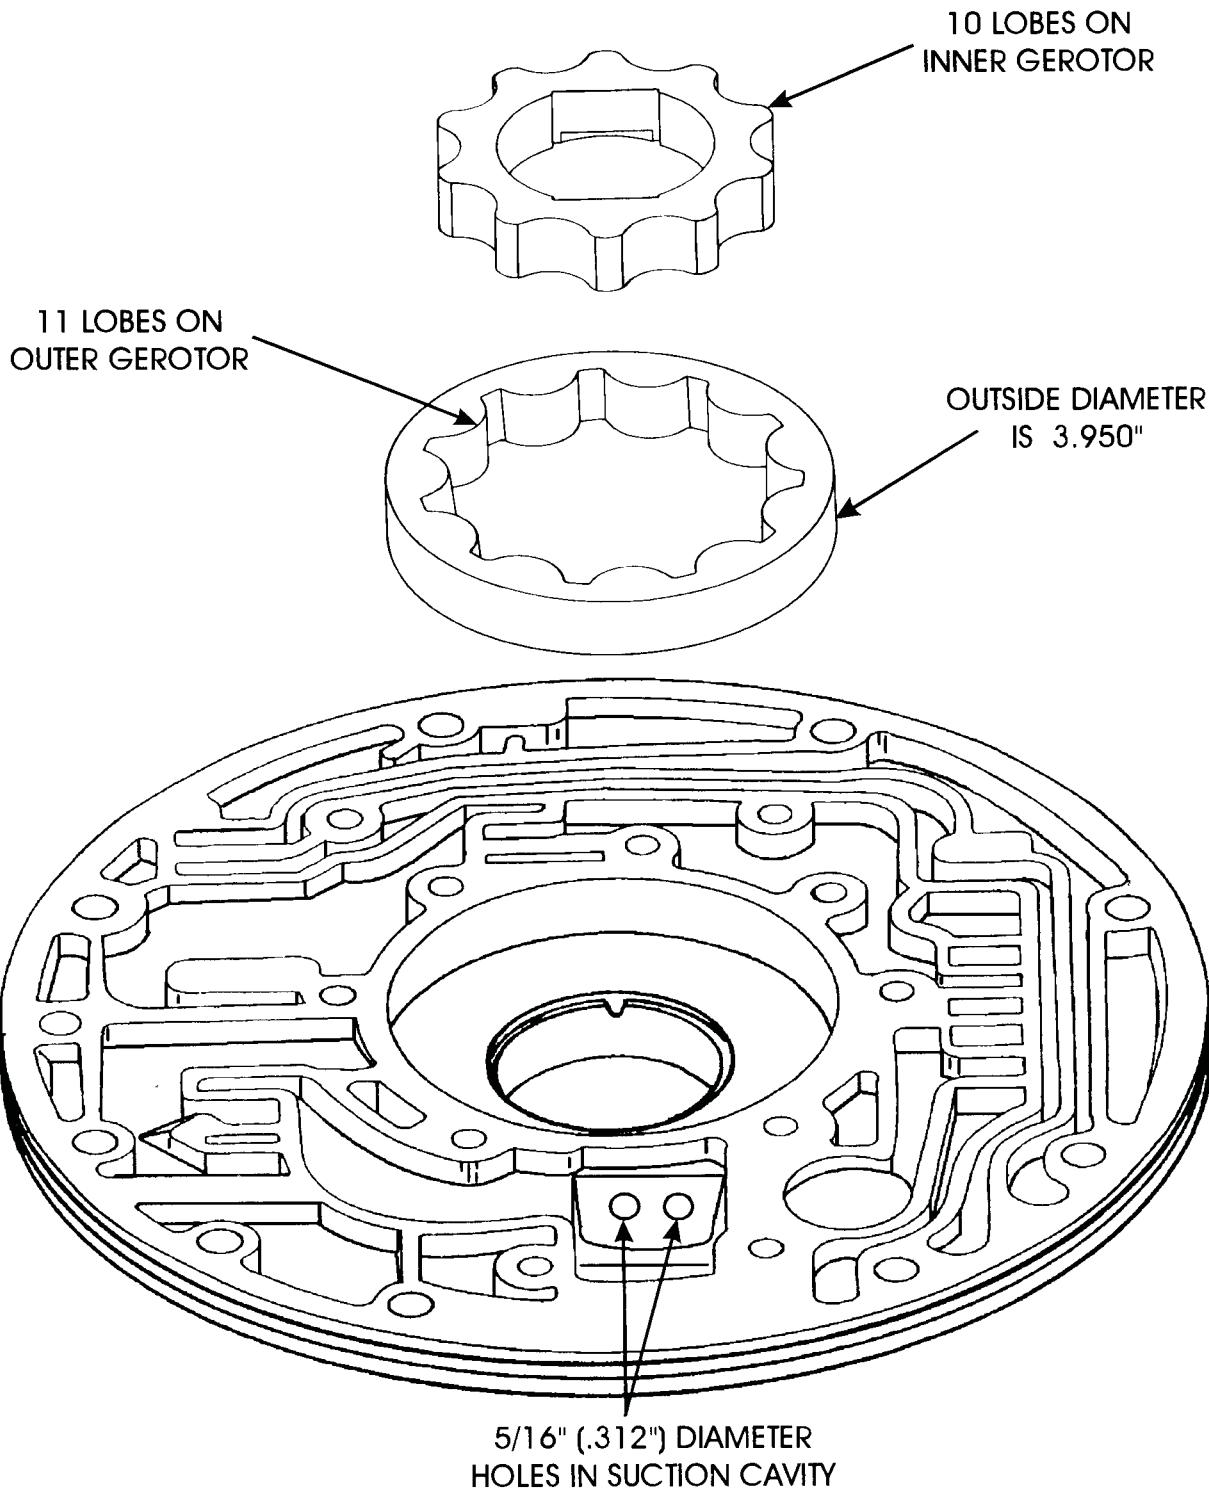

Figure 55
- (1) FRONT PUMP BODY - Gerotor bore has an increased diameter to accommodate the new design level outer gerotor. Previous outer gerotor diameter was 3.950" and the new design level outer gerotor diameter is 4.083". Refer to Figures 55 and 56. Also, the two holes in the suction cavity were increased from .312" to .400", as shown in Figures 55 and 56.
- (2) OUTER GEROTOR - The lobes on the Outer Gerotor changed from the previous 11 lobes to 10 lobes on the new design, to accommodate the changes on the inner gerotor. The diameter of the Outer Gerotor also changed from 3.950" to 4.083". Refer to Figures 55 and 56.
- (3) INNER GEROTOR - The lobes on the Inner Gerotor changed from the previous 10 lobes to 9 lobes on the new design, to accommodate the changes on the outer gerotor. Refer to Figures 55 and 56. The changes on both the inner and outer gerotor increased the cavity between the gerotors for increased pump volume, as shown in Figure 57.
- (4) FRONT PUMP COVER - Received casting changes with added ribs in strategic places to increase torque retention when the two halves are torqued properly. The Pump Body to Pump Cover bolts should be torqued to 18-23 ft.lbs, with the alignment ring in place.